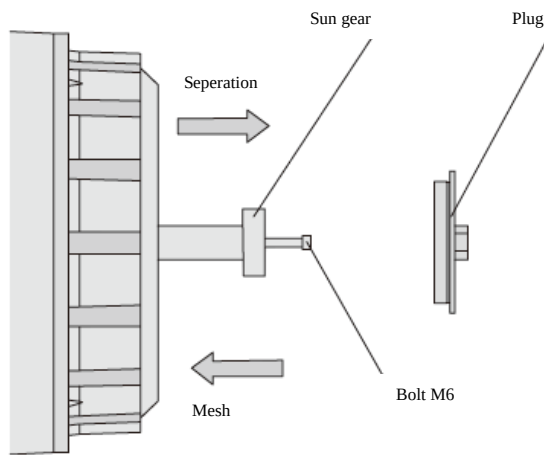

Figure 7-1 Diagram for Disengagement of Drive Wheel
5. If it's necessary to tow the mobile aerial work platform by a winch, disengage the drive wheel brakes before towing. After towing, re-engage the brake in reverse sequence, as shown in Figure 7-1. The disengagement operations of the drive wheel brakes are as below: